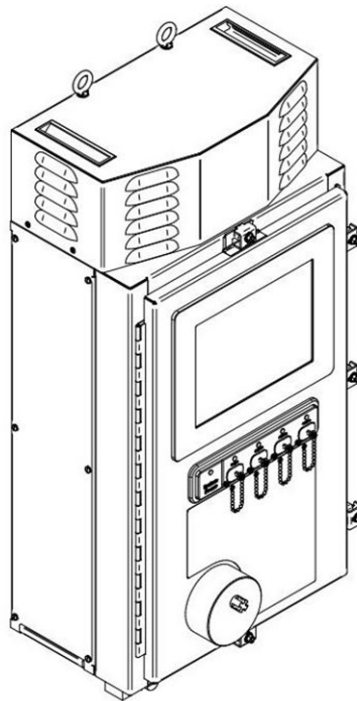

Figure 9. View of the Raman Rxn5 after the box is removed
3. Slide the box up and off the Raman Rxn5 analyzer. The analyzer will remain standing in the foam bottom as shown in Figure 9.